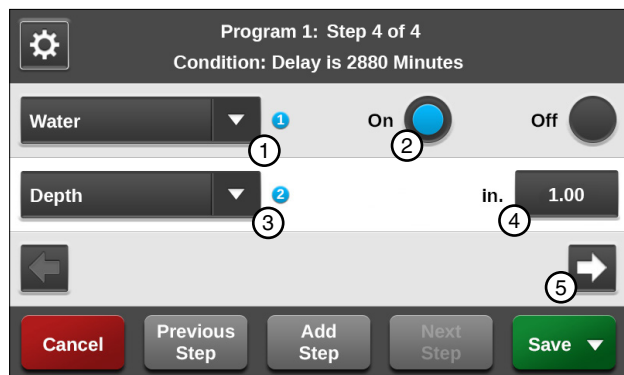

Figure 134-2 1. Water Command 2. On 3. Depth Command 4. Inches 5. Next
12. Enter the commands to be executed after the delay. Refer to Figures 134-2 and 134-3.